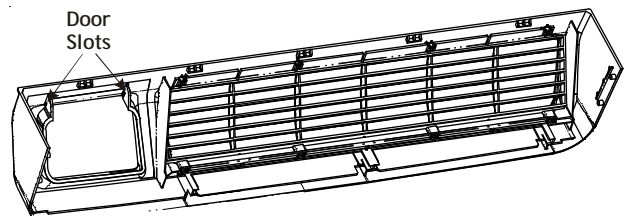

Figure 2 - Back of Cabinet
2. Gently disengage the original control door from the door slots on the top of the front cover, and discard door. See Figure 2.